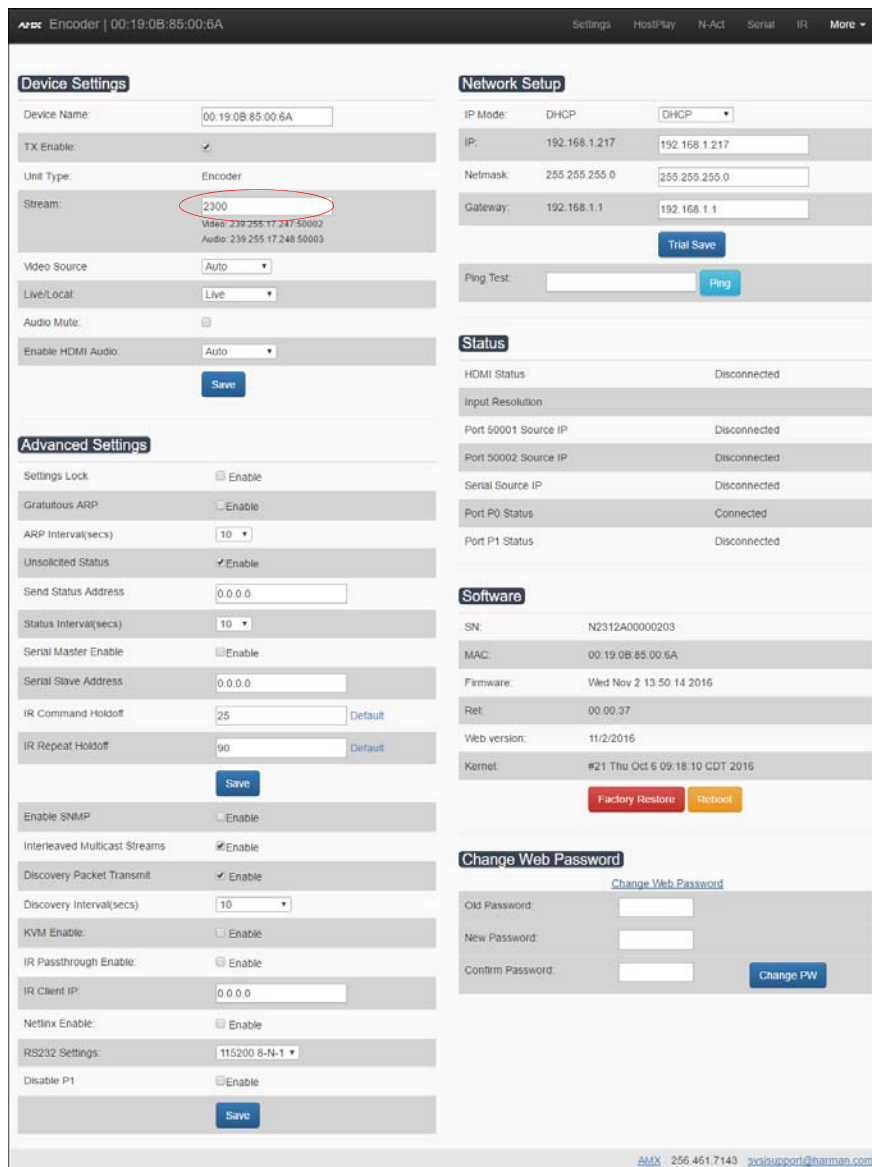

FIG. 13 Changing Stream Setting
5. The **Settings** page is displayed (see Figure 13).